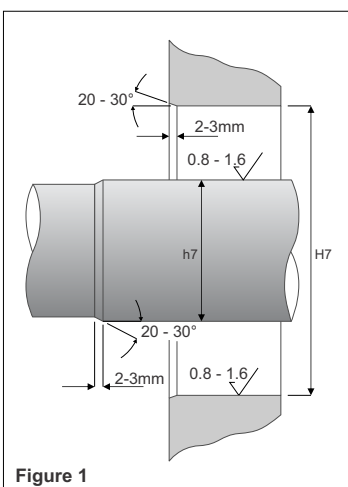

Figure 1
- Ensure that the dimensions and tolerances specified in **Figure 1** are adhered to.